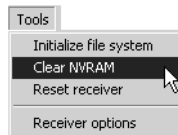

Figure 4-14. Clear NVRAM with PC-CDU
2. Click **Tools** ▶ **Clear NVRAM** (Figure 4-14). The REC LED flashes green and red; the STAT LED flashes red.